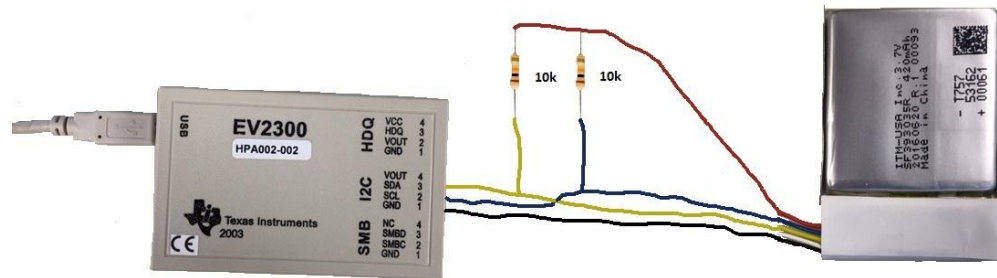

Figure 1: Janus Battery Connected to EV2300
1. Connect the Janus battery to the Texas Instruments EV2300 USB to I2C converter as shown in Figure 1.